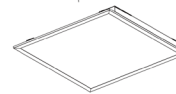

Fig. 3
3. Remove driver cover (Fig. 3)